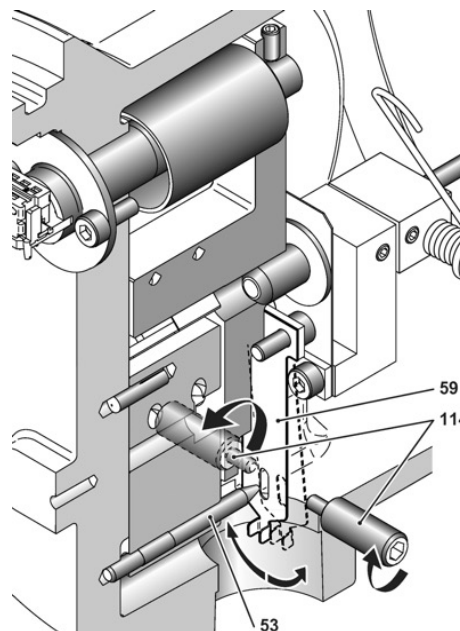

Figure 19
- a. Open the access plug (107) on the right side of the case to look at the simulation mechanism. Remove the safety blue plug (190) and the two 1/8" NPT plugs (115). Use a 5 mm hex wrench.
- b. Through this hole, to define REF L and REF H, use your finger to move the flexure (59) in the direction of the torque tube until the flexure touches the adjusting screw post (114). While maintaining contact, slide the flexure left or right along the surface of the screw post (Figure 19).